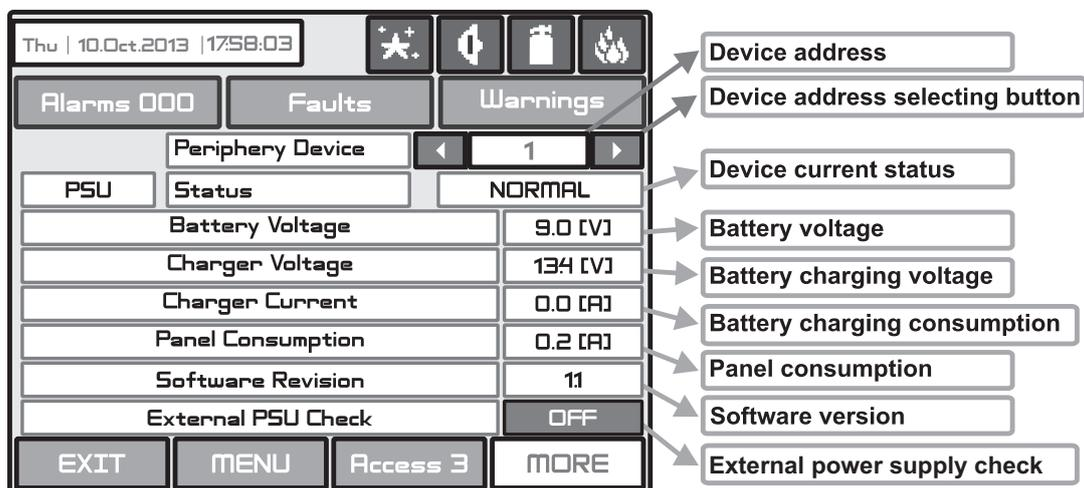

Fig. Screen 5 PSU Parameters (Power source)
Choosing “**Periphery**” button leads to submenu for entering the parameters of the available periphery devices in the system configuration - Fig. Screen 5. The list of supported periphery devices is:
- **PSU** Power source - see Fig. Screen 5
On the PSU screen are visible the current technical characteristics of the main power supply unit - see Fig. Screen 5. “External PSU Check” setting button. This is an option for continuous monitoring and reporting for Fault condition in the external power supply unit - see Figure 17. The external power supply unit (IRIS PS72 for example) is connected to “Fault In” and “Fault Out” terminals of the main power supply unit. When the option is Enabled (ON), the status of the external power supply is monitored. The panel will display a fault message “External Power Supply Fault, Periphery Device 1-PSU” in case of any trouble with the external power supply unit.